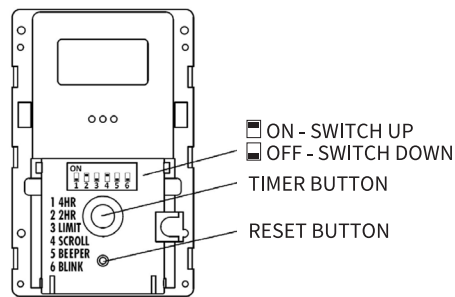

Figure 4
5. **BEEPER:** Set ON activates feature for beep warning every 15 seconds starting at 2 minutes before OFF. See Figure 4.
6. **BLINK:** Set ON activates feature for load flash 2 minutes before OFF. See Figure 4.